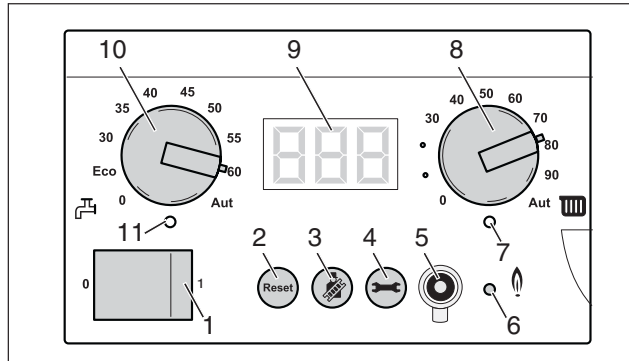

fig. 69 BC10 basic controller
The mains switch (fig. 69, **item 1**) is used to switch the boiler on and off.
If a fault has occurred you may have to restart the boiler by pressing the "Reset" button (fig. 69, **item 2**).
The "Chimney sweep" button (fig. 69, **item 3**) is used to put the boiler into flue gas test, service or manual operation mode.
A maximum heating water temperature in accordance with the setting of the "Maximum heating water temperature" dial (fig. 69, **item 8**) on the BC 10 basic controller applies during chimney sweep, service and manual operation.
- Limit the maximum CH flow temperature using the "Maximum CH flow temperature" dial (fig. 69, **item 8**) to the maximum flow temperature of the floor heating circuit (usually maximum 40 °C).
The "Service" button (fig. 69, **item 4**) is used to display the current CH flow temperature, the current system pressure etc. Also see table 18, „BC10 Display readings“, page 93“, table 19, „BC10 Display settings“, page 93 and table 20, „BC10 Display codes“, page 94.